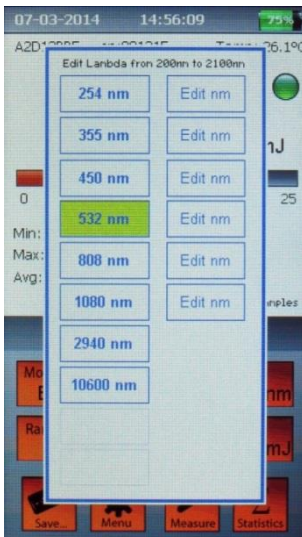

Figure 3
b) The "edit lambda" menu (Figure 3) will be displayed.